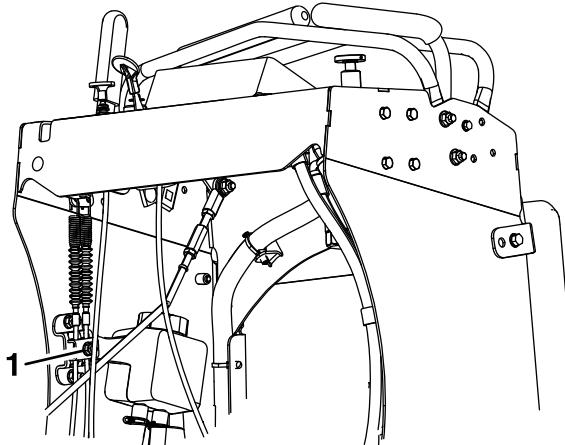

Figure 50
4. Loosen the cable clamp on the brake cables under the console (Figure 50).